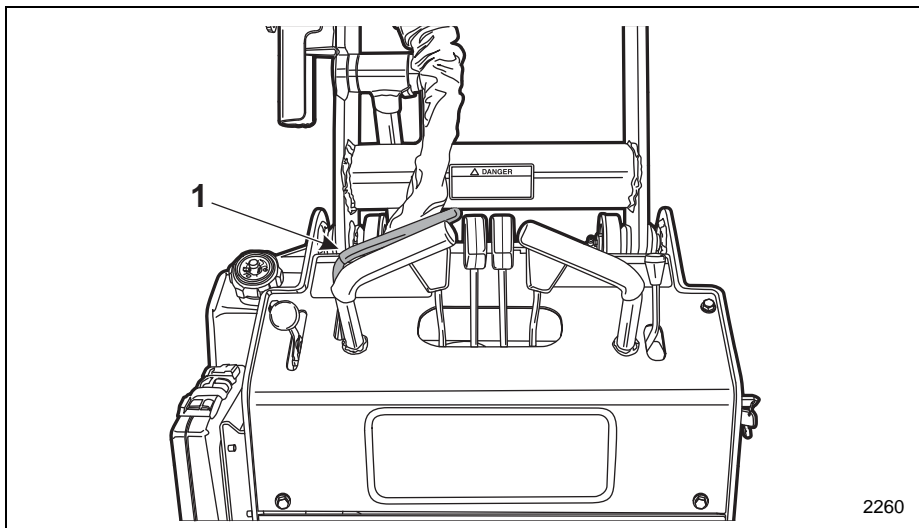

Figure 3-35 Auxiliary Control Lever
10. Attach the hydraulic hoses to the quick connects. See Figure 3-35.
- a. Move the AUXILIARY control lever (Item 1, **Figure 3-35**) either towards the hand grip or backwards into the REVERSE detent position. This will release the hydraulic pressure locked in the auxiliary hydraulic lines. Leave the control lever in the detent position.